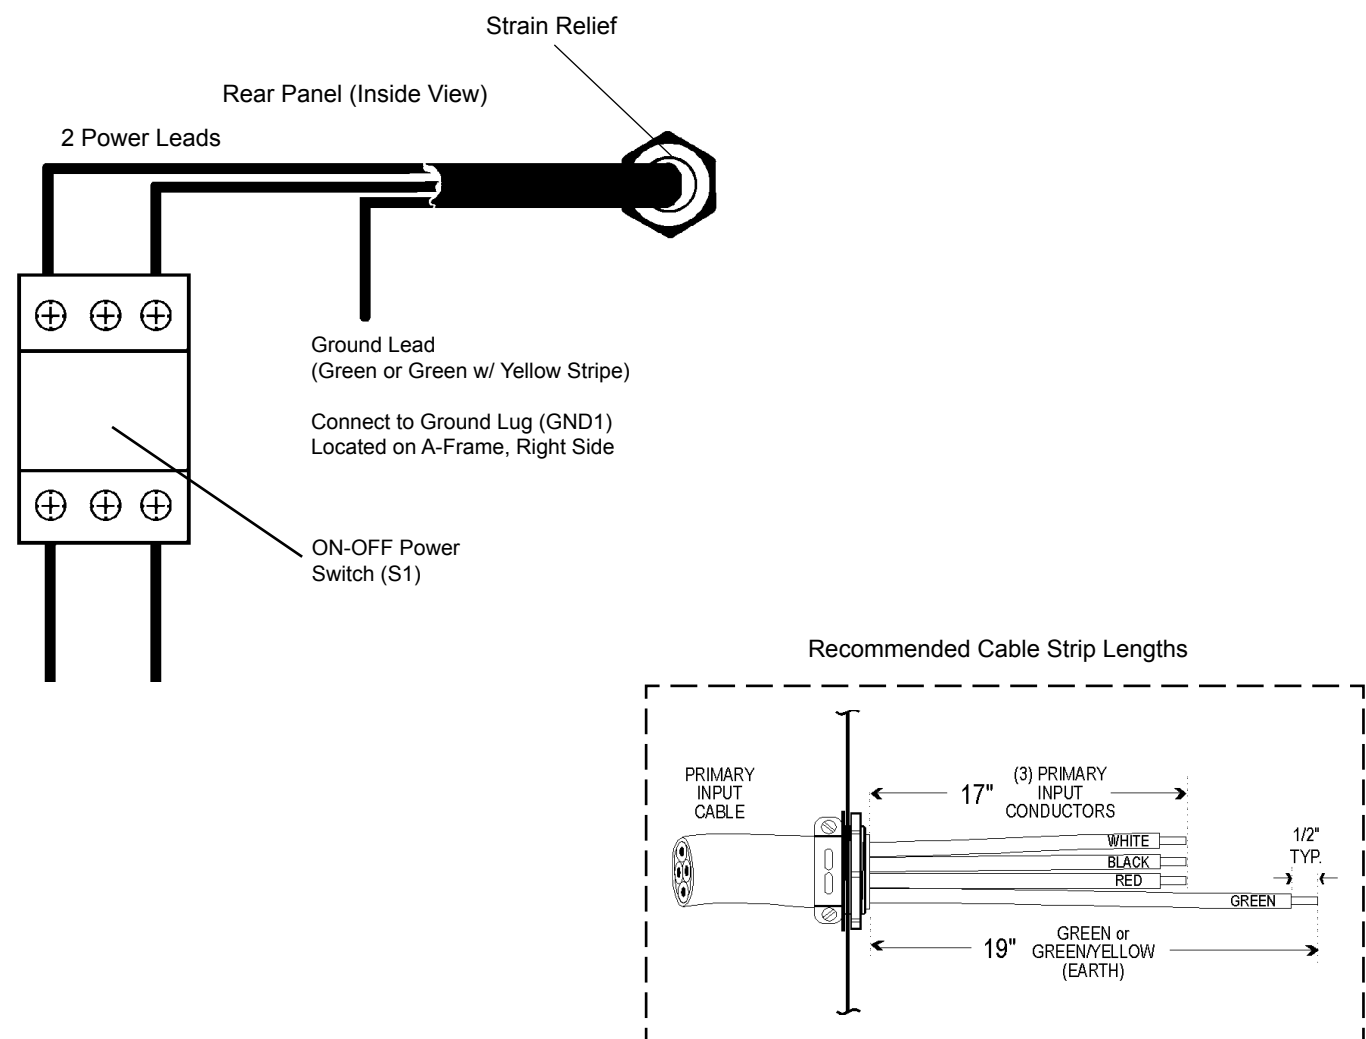

Figure 2-1. Connecting Primary Power Leads
2. Remove the top cover. Identify primary power input connections on the power switch, chassis ground lug on the "A" frame, and primary input terminal board. Refer to Figures 2-1 and 2-2.
3. When using the provided strain relief, refer to Figure 2-1 for proper cable strip lengths. It is important to follow the cable strip guide to ensure that if the primary input cable is ever pulled from the strain relief, the input conductors will be pulled from the ON/OFF power switch before the ground lead is pulled from the ground lug. Once stripped, thread the input and ground conductors through the large strain-relief in the rear panel of the power source. Connect the ground wire to the terminal lug located on the right rear A-frame leg inside the power source. Connect the primary power leads to terminals L1 and L3 on the input power switch. Secure the strain relief on the input cable.